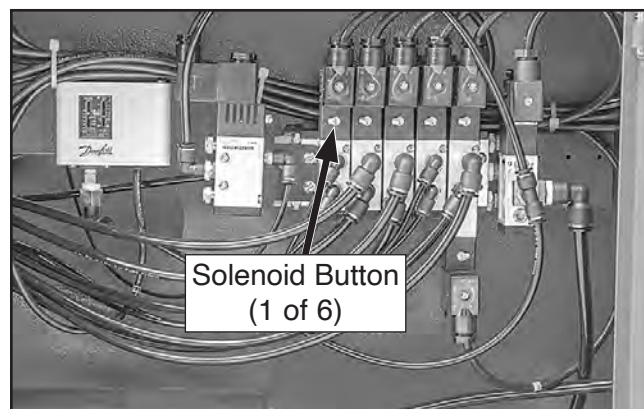

Figure 137. Location of solenoid button.
6. Press and release button on appropriate solenoid to activate pneumatic component (see **Figure 137**).